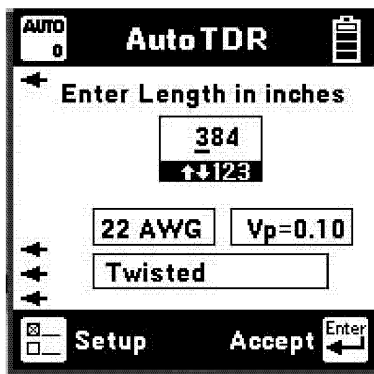

Figure 25. AST900 Auto TDR Display
(6) Insert the next character and use the  cursor again to position the cursor to the next position. Continue entering numbers or letters in this manner until all have been entered.
(7) To delete a character, press the  key.
(8) Once the ID has been entered, press the  key to save the current TDR trace information.
q. Auto TDR Trace Analysis (Figure 25).